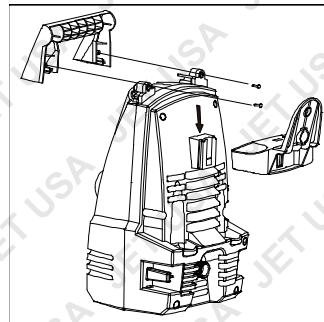

Figure 1b
2. Align holes on the bottom of the pressure cleaner as shown and tighten the 2 screws (figure 1b)